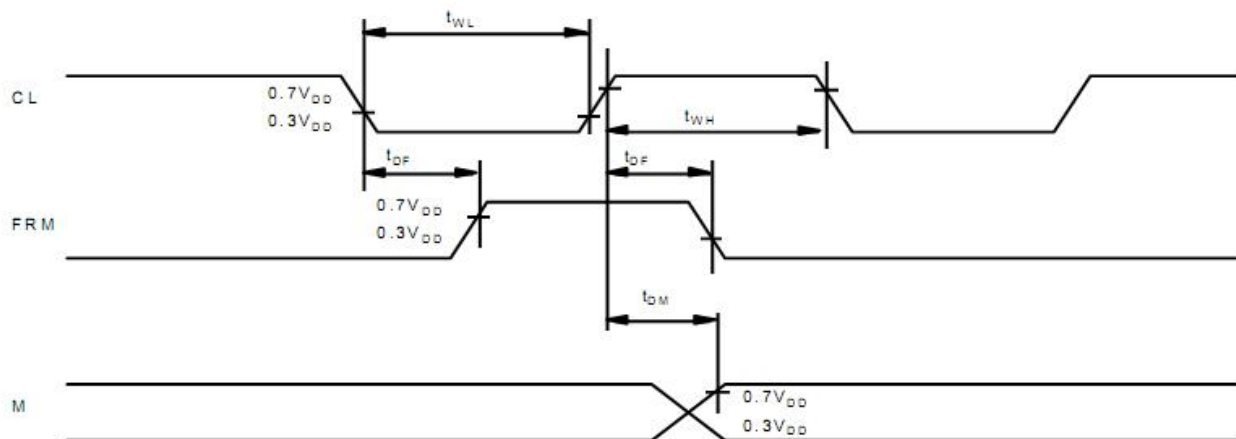

Fig 2. Display control signal waveform
- (3). Definition of area . (Fig. 2)